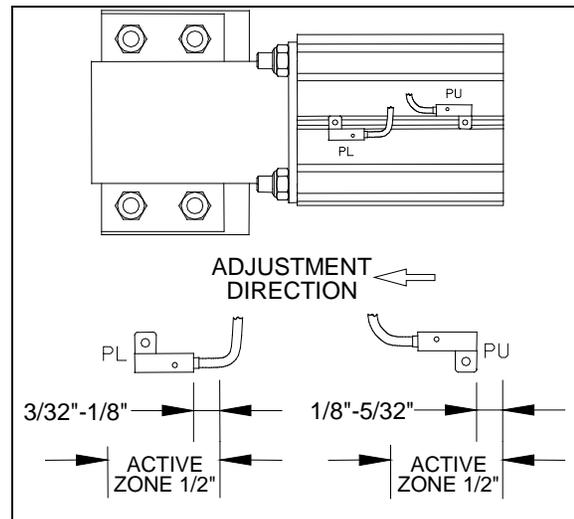

FIGURE 13 : SENSOR SWITCH ADJUSTMENT
2. Slide the pin locked sensor (PL) in the air cylinder groove (figure 13 and figure 53).
3. Place the PL sensor in the zone where it is activated. Move slowly the sensor toward the back side of the cylinder until it is deactivated. Bring back slowly the sensor (adjustment direction) and when it is activated again, continue to move it on 3/32" to 1/8". Tighten the sensor screw (figure 13).
5. Slide the pin unlocked sensor (PU) in the air cylinder groove.
6. Place the PU sensor in the zone where it is activated. Move slowly the sensor toward the back side of the cylinder until it is deactivated. Bring back slowly the sensor (adjustment direction) and when it is activated again, continue to move it on 1/8" to 5/32". Tighten the sensor screw (figure 13).
**Note:** It is important to adjust the sensor following the adjustment direction (figure 13).